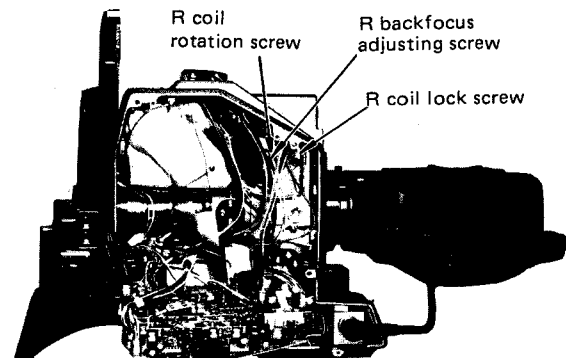
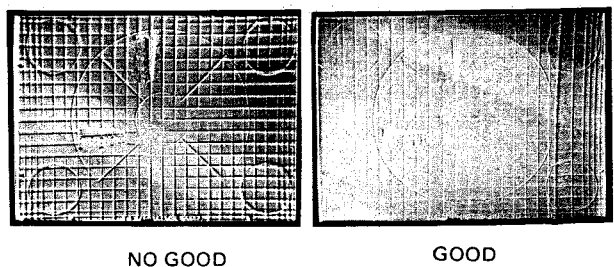

Fig. 5-4-20
Fig. 5-4-21
- o Loosen the R coil lock screw (R LOCK) slightly and turn the R coil rotation screw (R ROTATION) slowly and carefully (Fig. 5-4-20) so that the R horizontal (black) lines of registration chart are parallel with the G horizontal (white) lines. (Fig. 5-4-21). The parallel can be confirmed by turning VR5 (R V-CENTERING) on the Deflection VIC board.